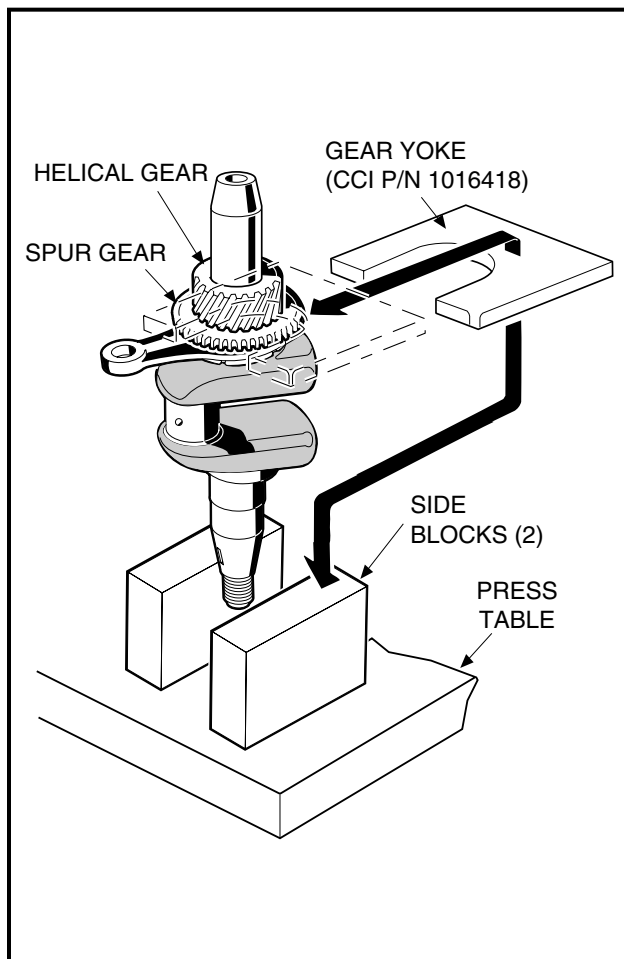

Figure 3-68 Place Assembly in Press
2. If the link rods need replacing, place the gear yoke (CCI P/N 1016418) under the spur gear with the small end of the connecting rod located opposite the crankpin (**Figure 3-68, Page 3-33**).